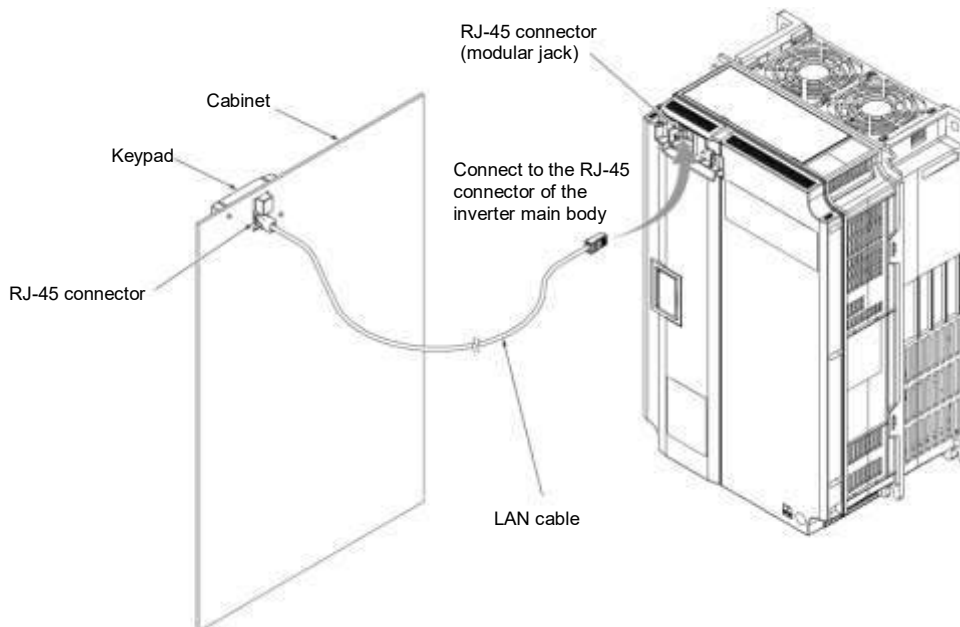

Figure 2.3-8 Connection a Commercially Available LAN Cable between the Keypad and the Inverter Main Body
- (5) Connect a commercially available LAN cable (straight) to the keypad RJ-45 connector and the inverter main body RJ-45 connector (modular jack). (Refer to Figure 2.3-8.)